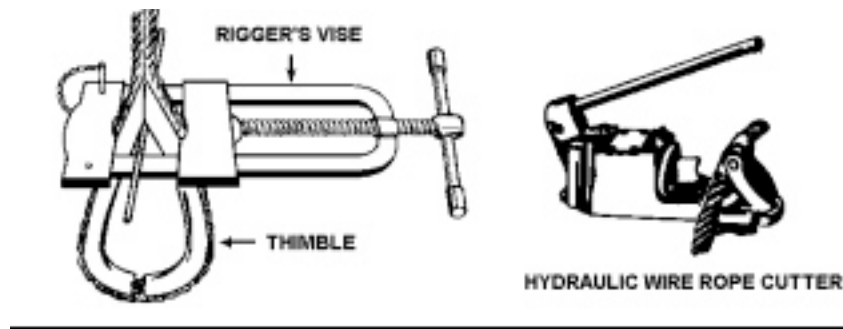
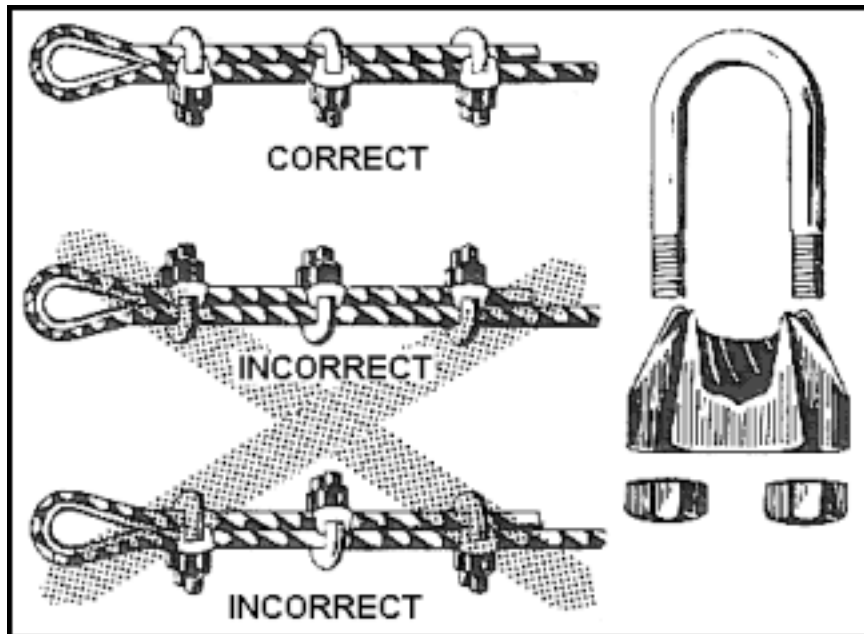

Figure 1
Figure 2
2. Cut Cable A small hydraulic wire rope cutter is the easiest way to cut the ½” cable. You will also want a rigger’s vice or similar tool to clamp the wire rope to the thimble while you attach wire rope clips. (Figure 1).
3. Splicing Cable Slide wire rope clips onto the cable. Using a Rigger’s vice, (fig 1) or other clamping device, clamp cable around thimble.( See Figure 2 for correct assembly).
4. PolyPipe Insert a length of PolyPipe through the total number of units that will be included in any one (1) section. Due to the pipe being shipped in coils it likely will only go through four (4) units at a time and will have to be “fed” through the rest.
5. Cable Installation Feed “raw” end of cable through metal washer, then Delrin spacer, then through 1” PolyPipe. On the opposite end attach Delrin spacer, then metal washer and attach thimble and wire rope clips as shown in Figure 2. (Refer also to “Anchor System Detail”).